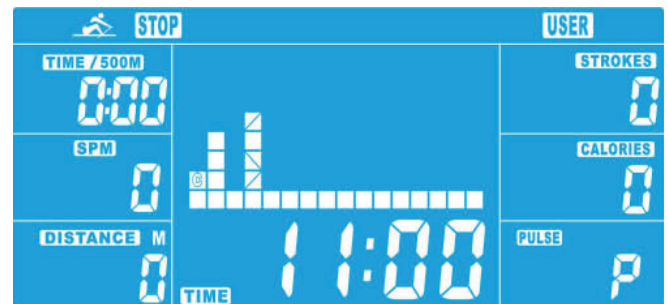

Figure 16
3. Press the UP or DOWN button to set a value for TIME (fig. 16). Confirm with the ENTER button.